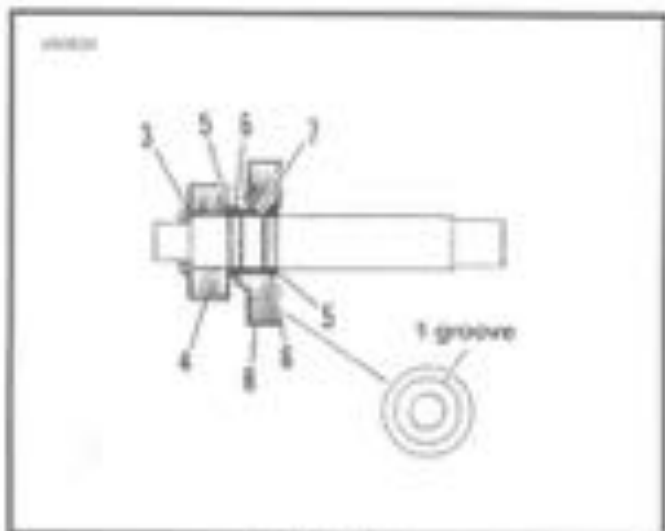

Figure 6-38.
- See Figure 6-38. Install retaining ring (5). Position retaining ring in the second ring groove from the end with internal threads. Install thrust washer (6) next to retaining ring. Install split bearing (7) in seat next to washer (6).
- Locate countershaft first gear (8). Gear (8) has a ring groove at one side of the gear. Install gear (8) over split bearing (7).
- Install thrust washer (6) and retaining ring (5) next to gear (8).
- Locate countershaft 4th gear (4). This gear is splined and has a single radial groove at one side. Position gear next to snap ring (5). Place beveled washer (3) over end of shaft with beveled side away from gear (4).